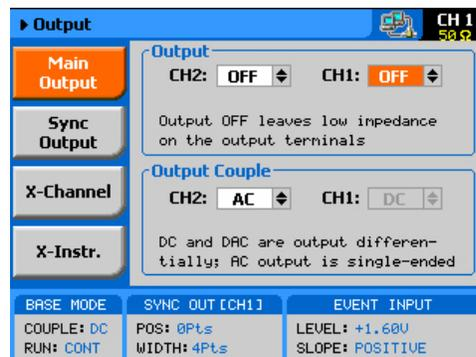

Figure 3-6, Selecting an Output Couple Path
You can modify the output couple path (see Figure 3-6) using the following procedure. Note that each channel can be programmed to a different setting.
1. Press the Output button in the Control group buttons. Observe the Output display, as appears in Figure 3-6.
1. Change the output couple path to AC, as shown in Figure 3-6.